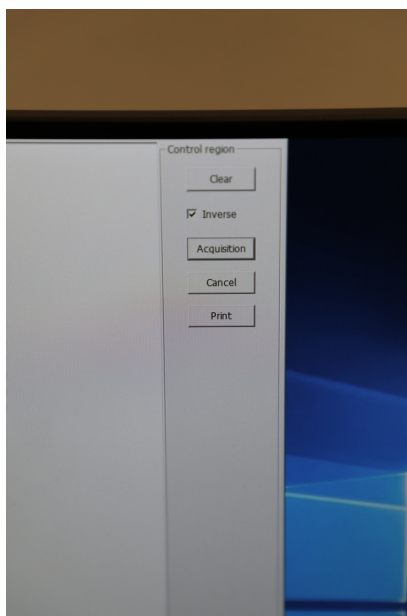

Figure 6: Close up view of the acquisition screen
9. Review the print on the acquisition screen and if it is clear, complete, and free of smudges/overlap, press acquisition. If the image is not suitable, press clear and repeat the scanning procedure (Figure 6).